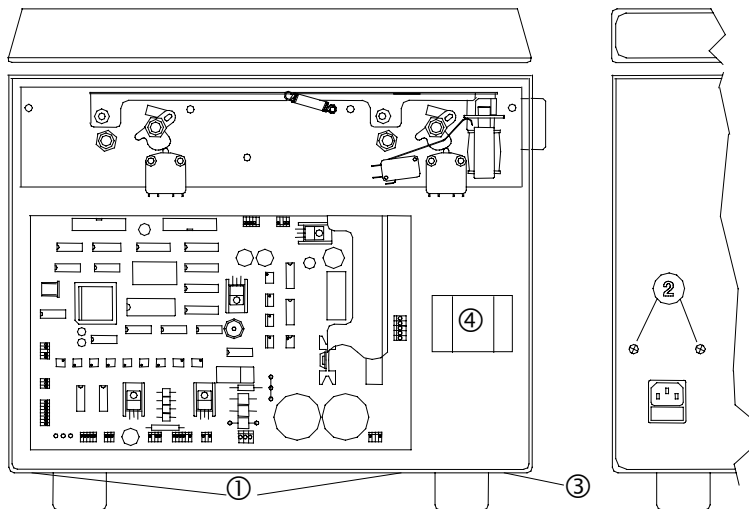

Fig. 16
5.10 Electronic rack and Mains front-end rack removal (see Fig. 16)